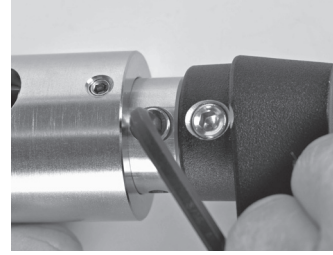

Fig. 27 Loosening the 3/8 in. set screw
1. Loosen the 3/8 in. set screw using the 3/16 in. hex key. (Fig. 27)